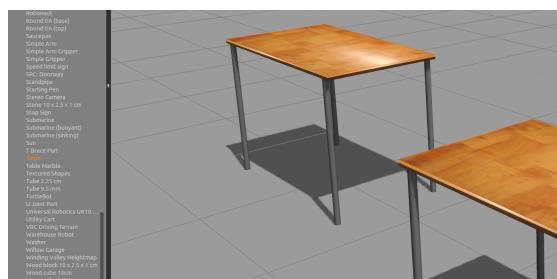

Figure 3.2: Place two tables.
5.- Click once on the word *table* from the list and then move the mouse over the simulation space. You will see that the model of a table is following the cursor. Click somewhere on the simulation space to place a table on the scenario. Repeat this step twice (see Fig. 3.2).